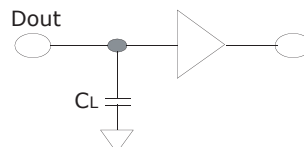

Figure 23. Output Load
- Output load (See Figure 23): $CL=50pF$